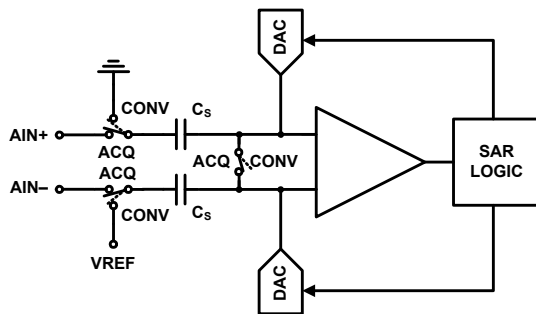

FIGURE 24. SAR ADC ARCHITECTURAL BLOCK DIAGRAM
The ISL26712/10/08 are based on a successive approximation register (SAR) architecture utilizing capacitive charge redistribution digital-to-analog converters (DACs). Figure 24 shows a simplified representation of the converter. During the acquisition phase (ACQ), the differential input is stored on the sampling capacitors (CS). The comparator is in a balanced state since the switch across its inputs is closed. The signal is fully acquired after t_{ACQ} has elapsed and the switches then transition to the conversion phase (CONV) so the stored voltage may be converted to digital format. The comparator will become unbalanced when the differential switch opens and the input switches transition (assuming that the stored voltage is not exactly at mid-scale). The comparator output reflects whether the stored voltage is above or below mid-scale, which sets the value of the MSB. The SAR logic then forces the capacitive DACs to adjust up or down by one quarter of full-scale by switching in binarily weighted capacitors. Again, the comparator output reflects whether the stored voltage is above or below the new value, setting the value of the next lowest bit. This process repeats until all 12 bits have been resolved.